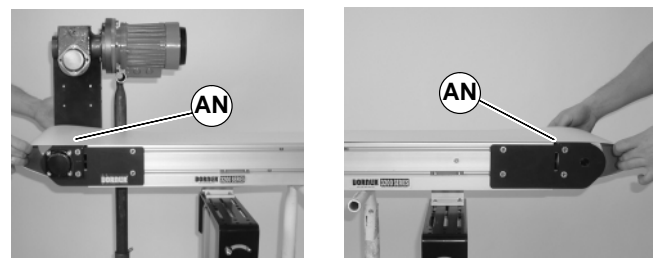

Figure 23
5. Remove belt (AN of Figure 23) from conveyor.